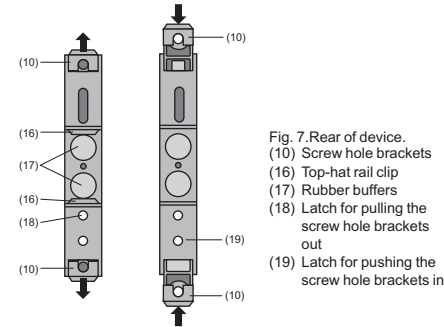

Fig. 7. Rear of device.
To return the brackets to their original positions, the latch (19) in the base of the device has to be depressed before applying pressure to the securing brackets (10) (see Fig. 7, right).